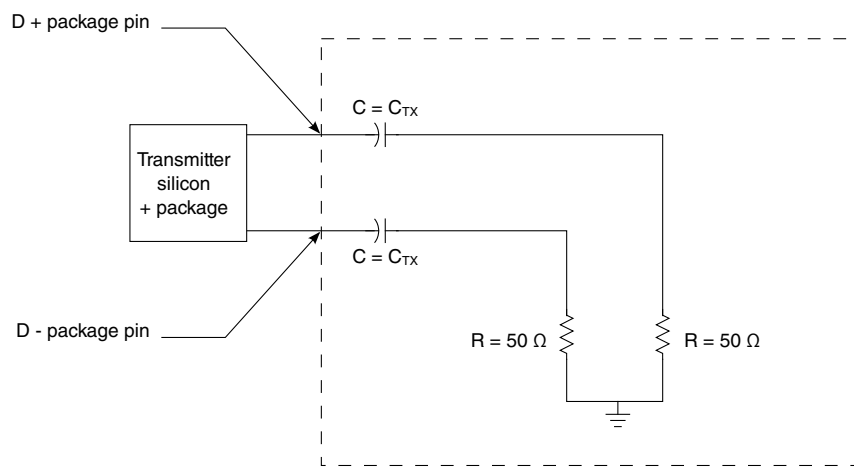

Figure 97. Test and measurement load
| 1. Specified at the measurement point into a timing and voltage test load as shown in Figure 97 and measured over any 250 consecutive transmitter UIs. | | | | | | |
1. Specified at the measurement point and measured over any 250 consecutive UIs. The test load in Figure 97 must be used as the receiver device when taking measurements. If the clocks to the receiver and transmitter are not derived from the same reference clock, the transmitter UI recovered from 3500 consecutive UI must be used as a reference for the eye diagram.